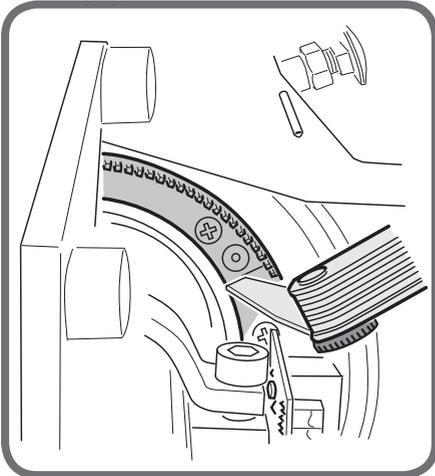

Fig. 4
- on the new disk, use nippers to cut the two junction teeth in line with the “0” notch. Insert the disk in the appropriate seat and tighten the 4 screws (previously loosened) but without blocking them. Adjust the disk so that the gap on the “0” notch is 0.9mm/1mm, as shown in figure 4. To check the width of the gap on the “0” notch you can use a normal feeler gauge;